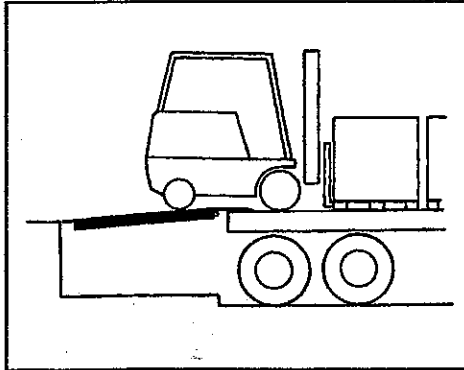

Fig. 32. Lip Securely On Truck
5. Make sure that the dock leveler lip is resting securely on the truck/trailer bed and that the inside light is GREEN. See Figure 32. Complete loading/unloading operations.